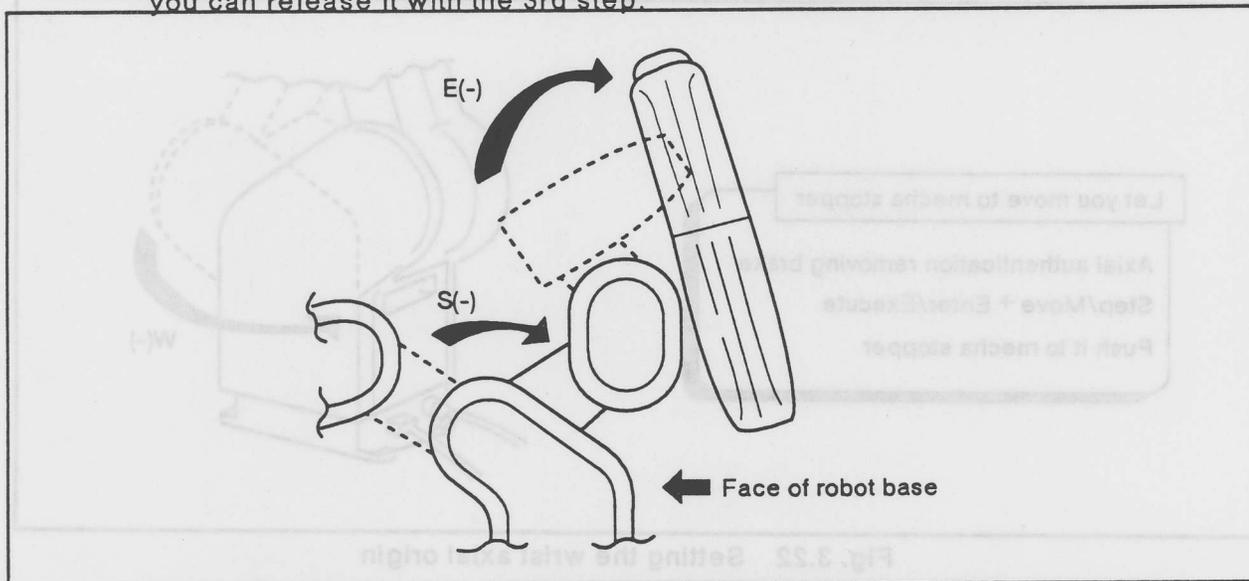

Fig. 3.23 Setting origin position: Shoulder, Elbow
- ② Make sure that the second entry has "1".
- ③ Push [STEP / MOVE] + [ENT/ EXE] to release the break for 5 seconds after beeping.
- ④ Support the upper arm by hand just after the 3rd step.
- ⑤ Move the shoulder joint slowly in both hands to (-) direction: (See Figure 3.23), and hit it to the mechanical stopper. Although the brake works again after 15 seconds, you can release it with the 3rd step.
- (8) Setting the elbow origin position.
- ① Push [0] key 2 times and push [1] key. The "1" appears at 3 (elbow) to release brake.
- ② Make sure that the third entry has "1".
- ③ Push [STEP / MOVE] + [ENT / EXE] to release the break for 5 seconds after beeping.
- ④ Support the elbow joint by hand just after the 3rd step.
- ⑤ Move the elbow joint slowly in both hands to (-) direction: (See Figure 3.23), and hit it to the mechanical stopper. Although the brake works again after 15 seconds, you can release it with the 3rd step.